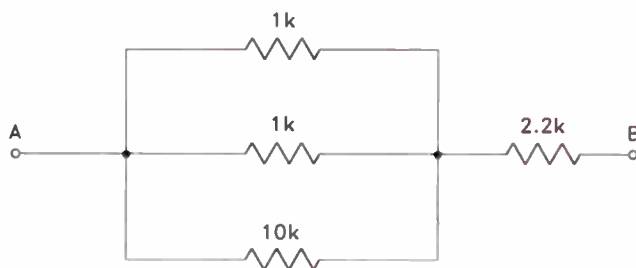

Figure 9-1. The circuit for Step 4 of Experiment 9.
Step 4. Build the series-parallel circuit shown in Figure 9-1. You should be able to do this without the aid of a pictorial diagram.